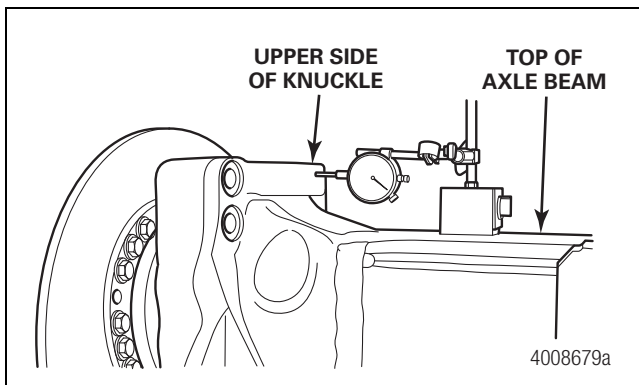

**Figure 10.13**
- **If the universal joint does not move freely:** Strike the yoke ear with a brass or copper hammer. Figure 10.13.